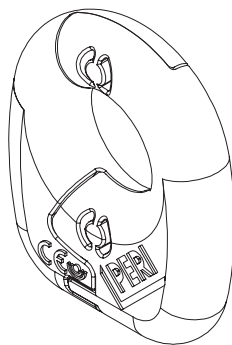
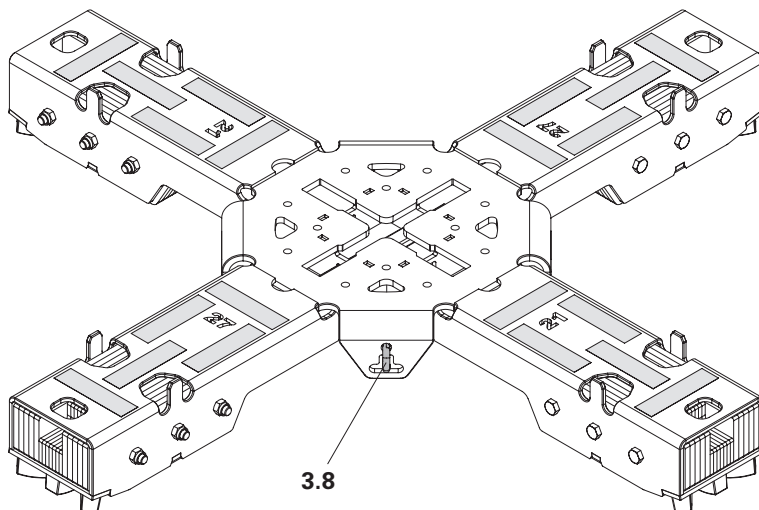

Fig. A1.05
Fig. A1.06
- An RFID LA tag (**3.8**) is fitted to the SKY-ANCHOR FLEXBASE (**3**). (Fig. A1.05 + Fig. A1.06)